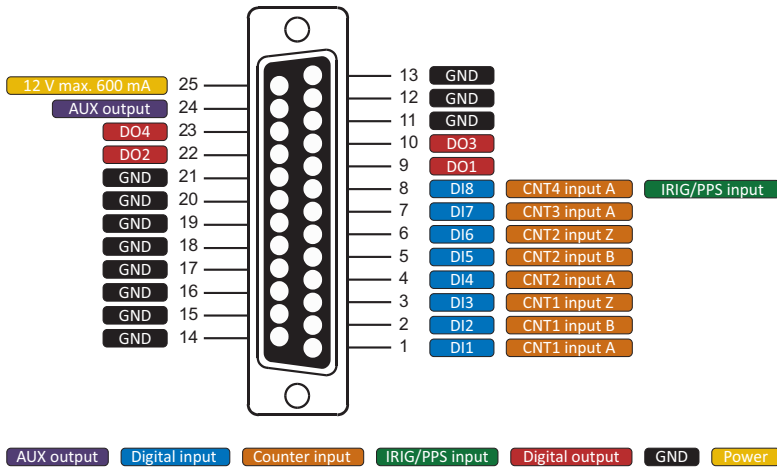

Fig. 11: Pin assignment D-SUB-25 connector
The supports an advanced counter via the pins 1–8 of the digital I/O connector shown in *Fig. 11*. For information regarding advanced counters refer to Functional description of advanced counter on page 189 of the TRION(3) series modules manual.